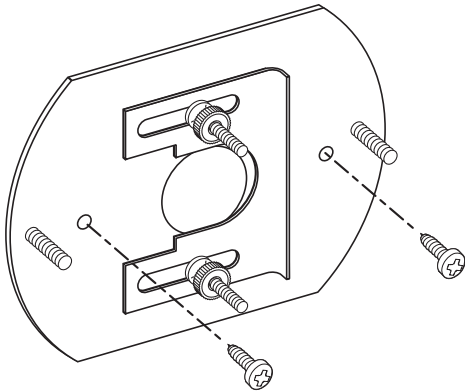

Fig. 4 Lamp is secured with a sliding bracket tightened with two knurled nuts.
**REMOTE LAMP BASE MOUNTING (Fig.4)**